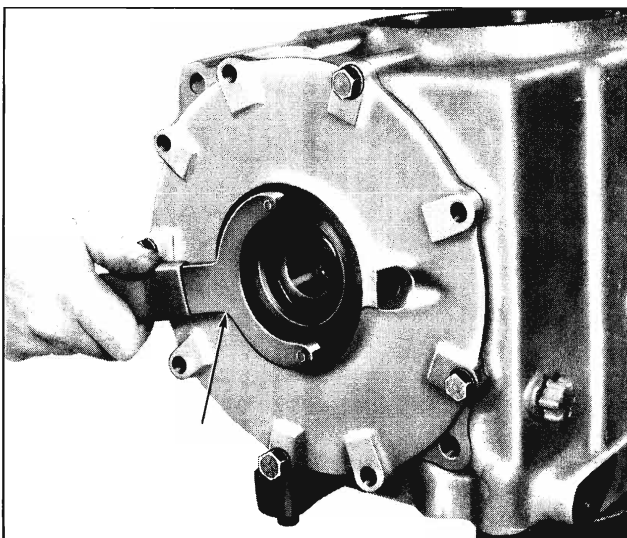
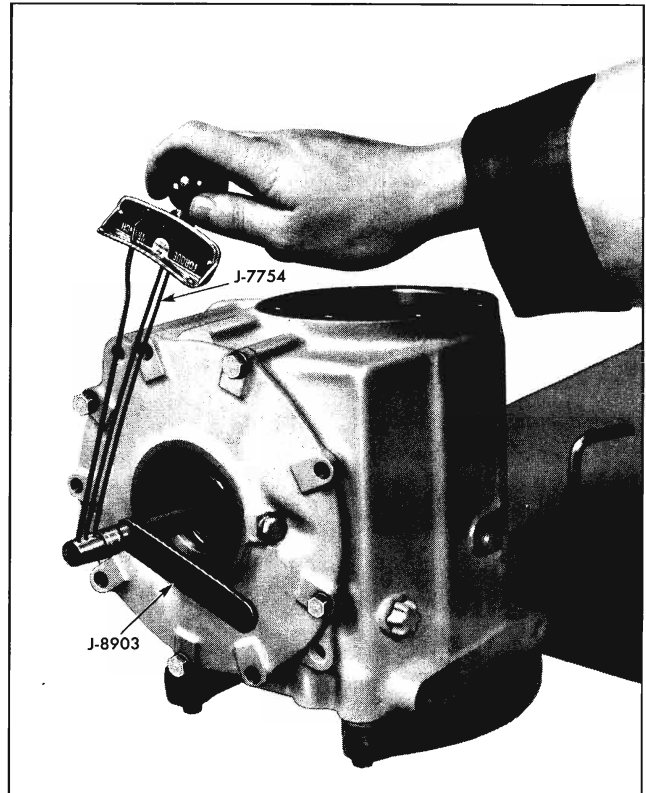

Fig. 4-57 Adjusting Side Bearing Preload
Fig. 4-58 Checking Side Bearing Preload
8. Adjust side bearing preload to 10-20 lb. in. by turning side bearing adjusting nut in carrier using tool J-8902 (Fig. 4-57). Check side bearing preload using J-8903 in shaft and J-7754 torque wrench (Fig. 4-58).